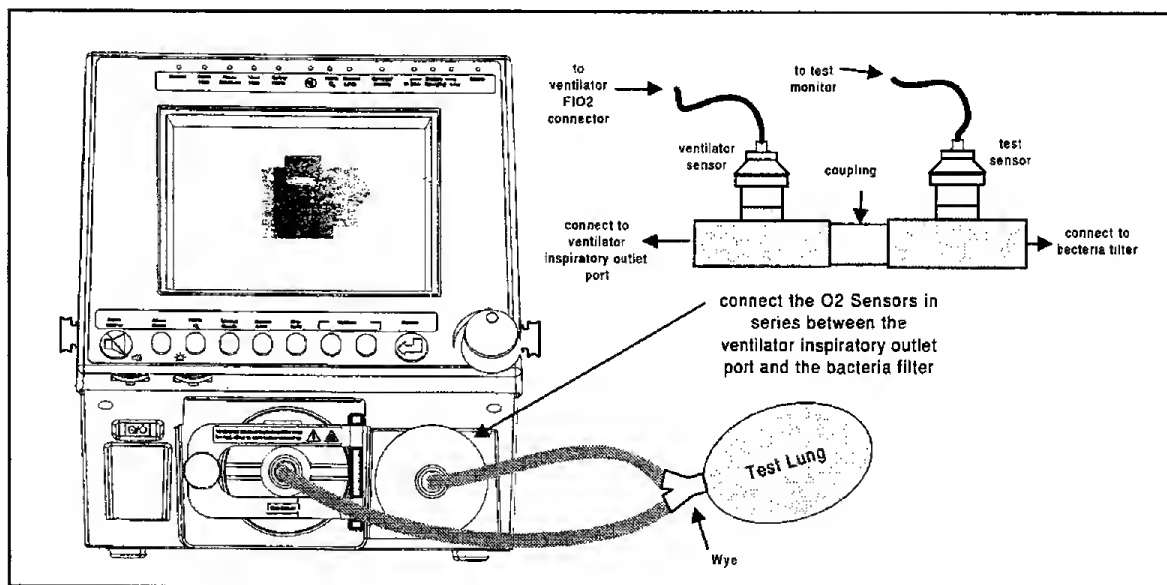

Figure 6-6: External Oxygen Sensor Connection
3. Connect the external oxygen monitor in series with the ventilator oxygen sensor per Figure 6-6.